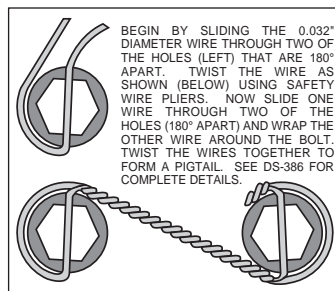

Figure 4. Safety Wire Diagram
- Pack the large inner bearing cone (5) with high temperature disc brake bearing grease (available from your local auto parts store) and install into the backside of the hub (4), Photo 4.
- Install the grease seal (6) by pressing into the backside of the hub (4), flush with the end of the hub, Photo 4.
- Pack the small outer bearing cone (11) with high temperature disc brake bearing grease and install into front of hub (4). Slide the hub assembly onto the spindle. Secure using spindle washer (12) and adjusting nut (13), Photo 5. Bearing adjustment: Tighten the nut while turning the hub. When there is a slight bind on the bearings, they are seated correctly. Back the nut off about 1/6 to 1/4 of a turn, or sufficiently to allow .001" to .007" end play. **WARNING:** Failure to back off adjusting nut could cause bearing to run hot and be damaged, which could cause the wheel to lock or come off. Install spindle nut retainer (14) and cotter pin (15).
- Screw dust cap (17) into hub (4). Friction created by the o-ring (16) on the dust cap keeps it from unscrewing.
- Orient the rotor (7) and the hat (8) as shown in Figures 1 or 2, and Photo 6. Attach rotor to hat using bolts (10) and washers (9). Using an alternating sequence, apply red *Loctite*® 271 to the threads, and torque to 155 **in-lbs**. For an added measure of security, the bolts may be safety wired using standard 0.032 inch diameter stainless steel safety wire as shown in Figure 4. Refer to Wilwood's data sheet DS-386 (available at [www.wilwood.com/Pdf/DataSheets/ds386.pdf](http://www.wilwood.com/Pdf/DataSheets/ds386.pdf)) for complete safety wire installation instructions.
- Slide the hat/rotor assembly (8 and 7) onto the hub (4) taking care to align the small countersunk holes in the hat with the small threaded holes in the hub. **NOTE:** The hat must fit flush against the hub face or excessive rotor run out may result. Install three flat head screws (18) through the small holes in the hat (8), and torque to 85 **in-lb**.